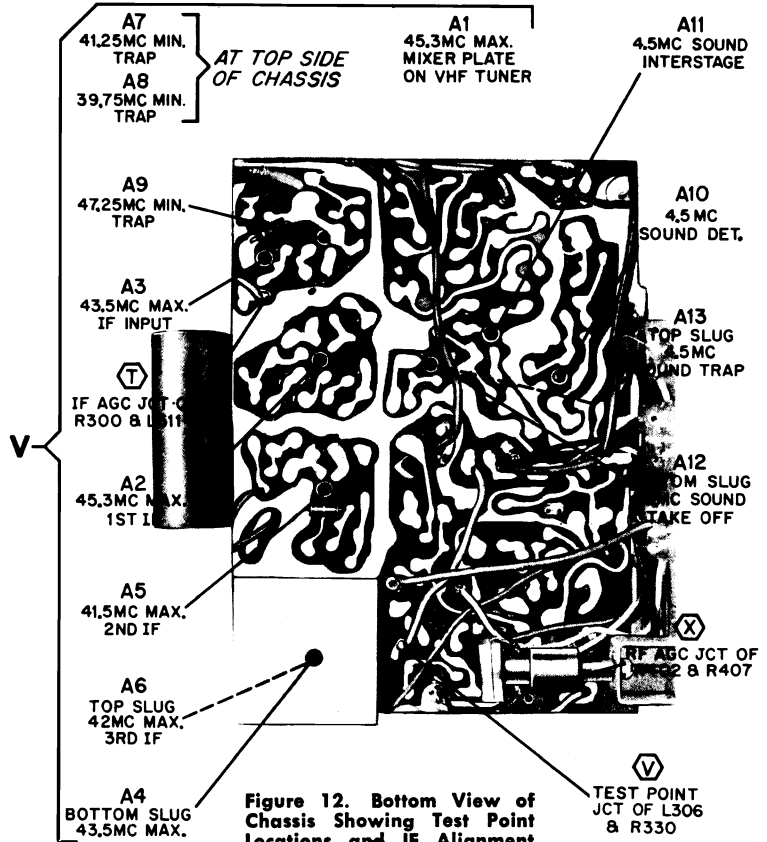

Figure 12. Bottom View of Chassis Showing Test Point Locations and IF Alignment Data. VHF Tuner at Top of Illustration.
- Connect negative of 3.0 volt bias supply through 10K resistor to test point "T" (IF AGC), see figures 12 and 13, positive to chassis.
2. Select the strongest TV station received. AGC control must be in proper adjustment, see procedure on page 11. Adjust other controls for normal operation. See figures 12 and 13 for adjustment locations.